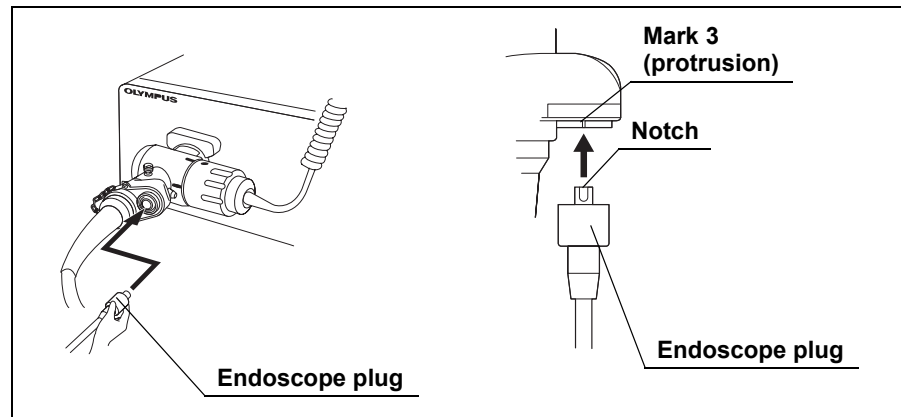

Figure 3.21
8. Align the notch on the endoscope plug of the magnification control cable with mark 3 on the zoom connector of the endoscope and push the endoscope plug into the zoom connector until it stops (see Figure 3.21 for CF-H260AZL/I only).